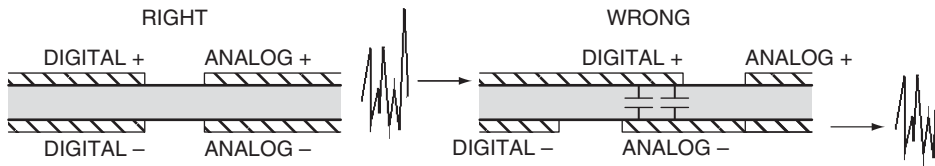

Figure 23.2: Digital and analog plane placement.
- Do not overlap digital and analog planes (Figure 23.2). Place analog power coincident with analog ground and digital power coincident with digital ground.